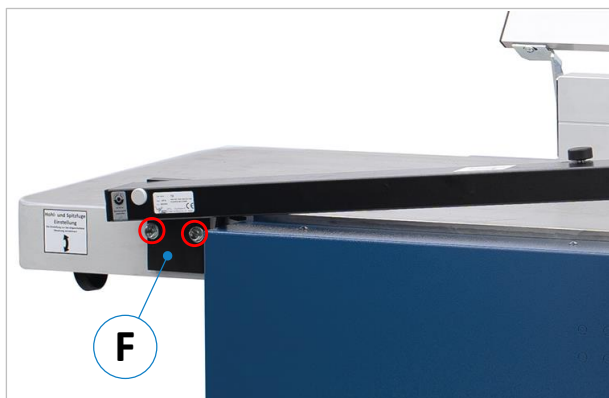

Figure 3: Fitting the guide arm
After you have determined the mounting position and made the two M8 mounting holes, attach the guide arm of the protective device (still without the hinged protective cover) to the machine body via the mounting plate (F) and with the appropriate M8 screws (see ⇨ Figure 3).